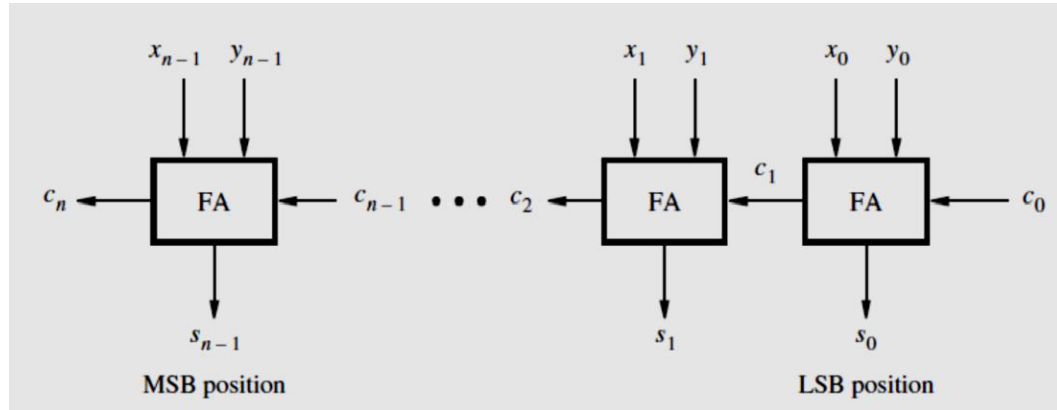

Figure 4.1 An n-bit ripple carry adder
- For each bit position we can use a full-adder circuit, connected as shown in Fig. 4.1.